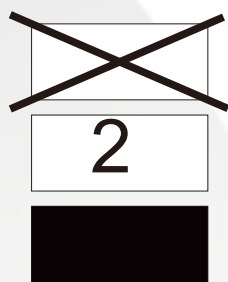

Figure 3-2 Do not stack multiple layers
3) The packaged modules can be stacked on top of each other for transportation or storage purposes, but only up to two layers, as shown in Figure 3-2.